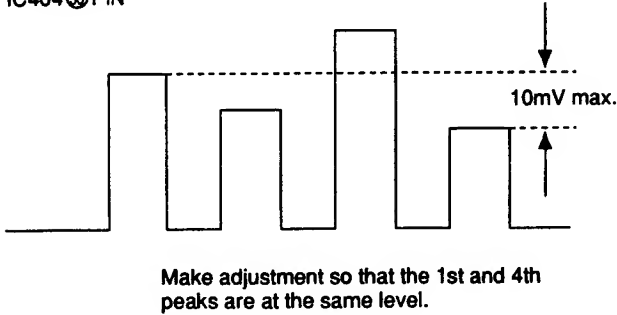

Fig. 5-18
- 2) Connect the probe of an oscilloscope to IC404 ② PIN or TP402.
- 4) Adjust **CHROMA NTSC 358 NOR** so that the peaks of waveforms will be flush with each other as shown in Fig.5-18.
- 2) Adjust **CHROMA NTSC 358 ACC OFF** in the same way as 10-4. shown above. (Fig.5-18)